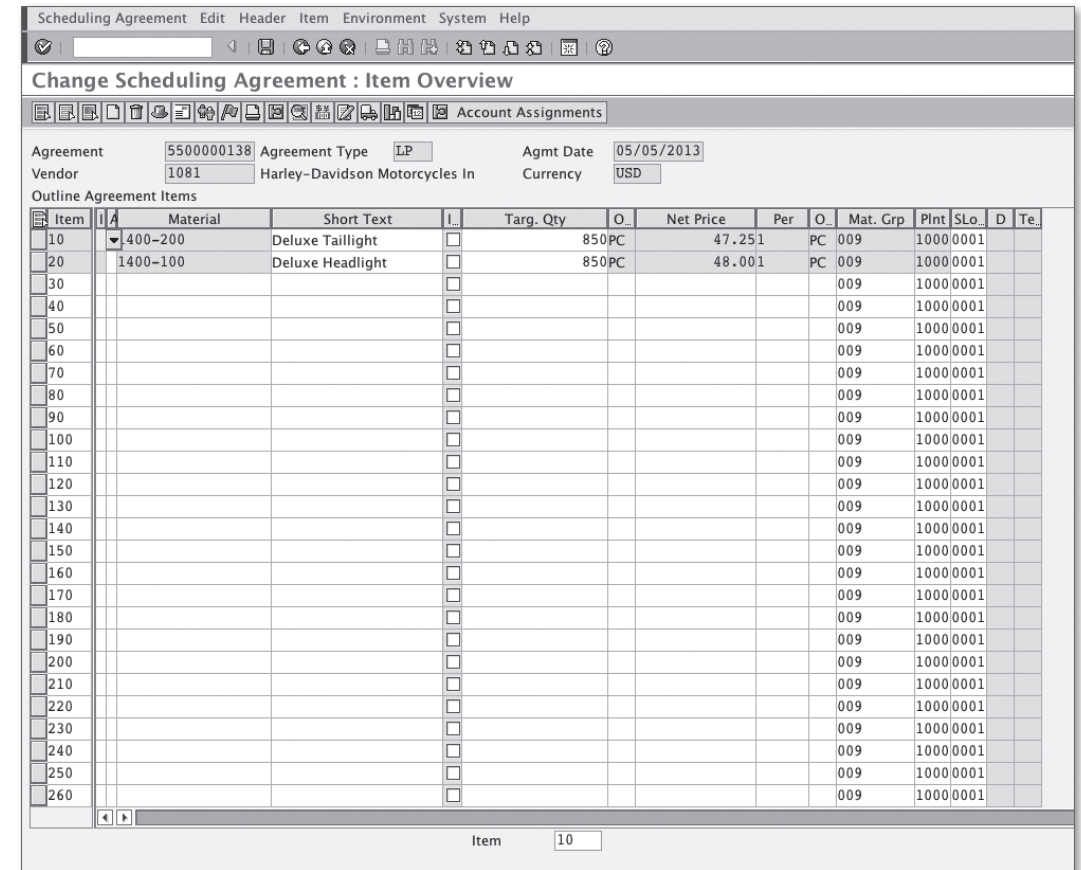

Figure 4.20 Overview Screen: Materials and Estimated Target Quantity
4. Enter the materials and quantities that will be committed for purchase from the vendor (see Figure 4.20). At this point, you can still choose to copy from a reference document or proceed to enter the materials manually.